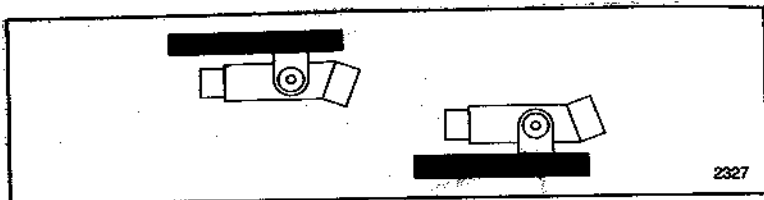

Figure 3. Regular Mounting Bracket
3. Secure the radio to the brackets with the mounting knobs as shown in Figure 3.